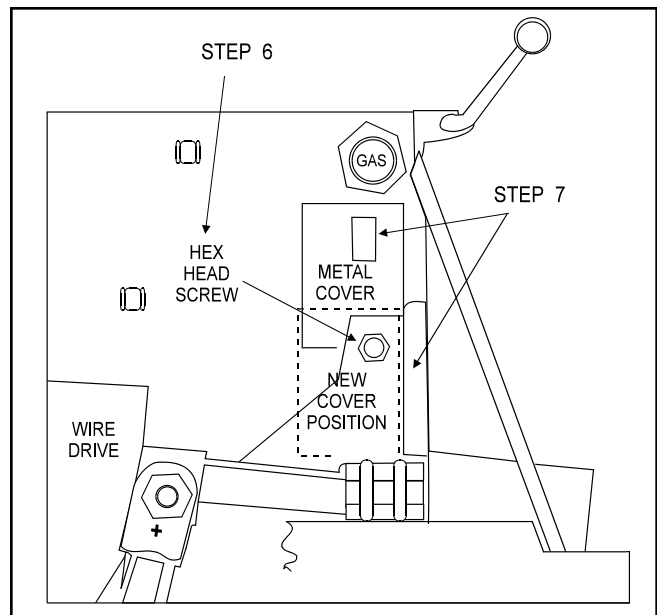

Figure C.1 - Spool Gun Installation.
See Figures C-1 and C-2.
6. On the wire drive side of the machine, remove the hex-head screw from beneath the gas connector releasing the metal cover. See **Figure C-1**.
7. Slide the metal cover out from behind the motor bracket. Flip the cover over so that the screw hole is in the top right corner, then reinstall as a spacer plate with the hex head screw. See **Figure C-1**.